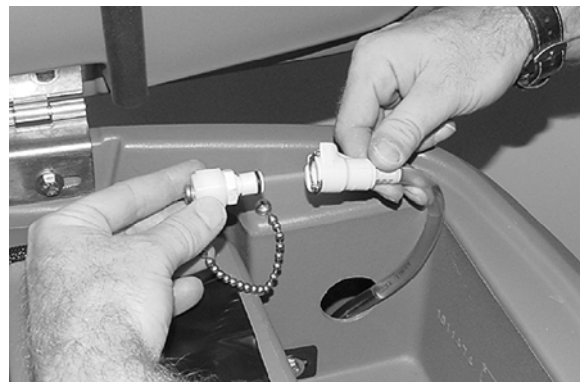

FIG. 51
11. FaST Model: Connect the FaST-PAK supply hose to the storage plug when not in use (Figure 51). Remove any dried concentrate from the hose connector by soaking it in warm water.